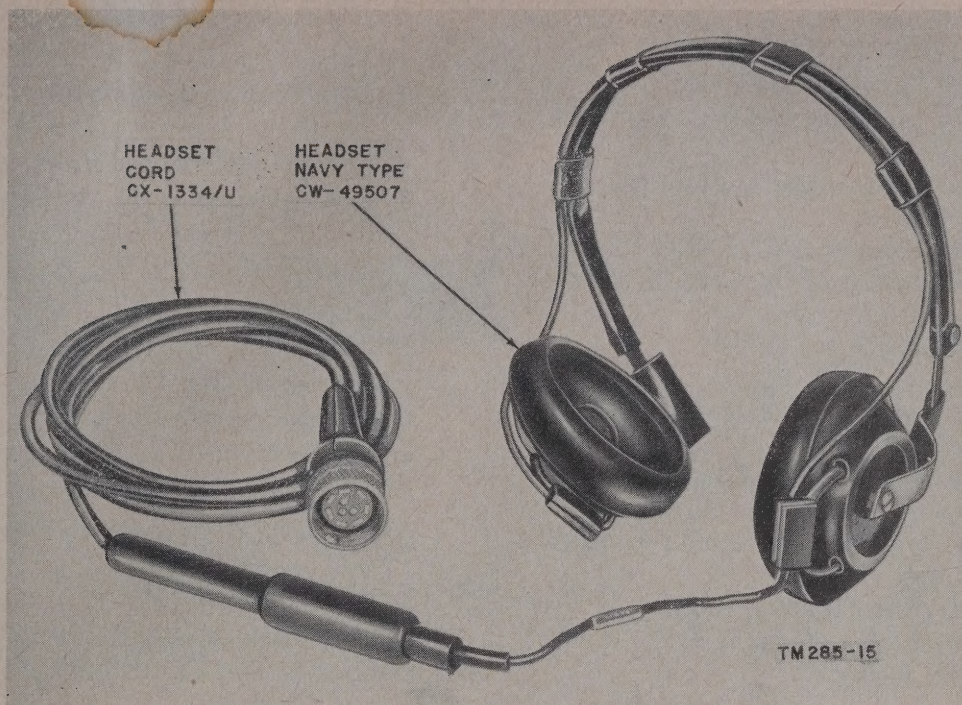

Figure 20. Headset Navy Type CW-49507 and Headset Cord CX-1334/U.
g. Headset Navy Type CW-49507 and Headset Cord CX-1334/U. Headset Navy Type CW-49507 (fig. 20) consists of two series-connected 300-ohm receivers. A 14-inch cord is connected to the receivers and is terminated in Plug PL-54. The plug will mate with Jack JK-26 on one end of Headset Cord CX-1334/U. Headset Cord CX-1334/U is 5 feet long. It is terminated in a 10-pin audio connector which is used to connect the headset to the audio connectors on the two receiver-transmitters, the auxiliary receiver, the interphone amplifier, and the control units.